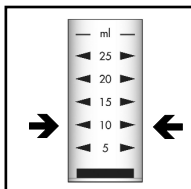

Figure 1
1. Fill the sample cup to the 10 mL mark with the sample to be tested (fig. 1).